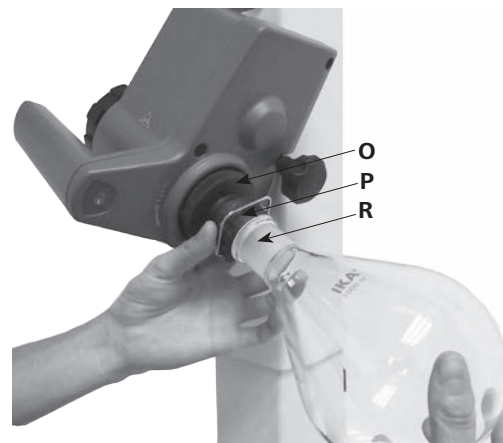

Fig.15a
- Place the evaporation flask (**R**) on the Vapour tube. (Fig.15a)